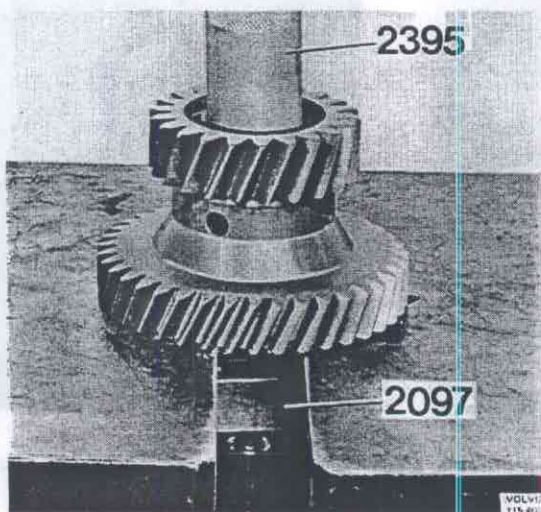

Fig. 43-155. Pressing out outer races
2. Press out the outer races from the intermediate gear with 2097 + 2395, Fig. 43-155.